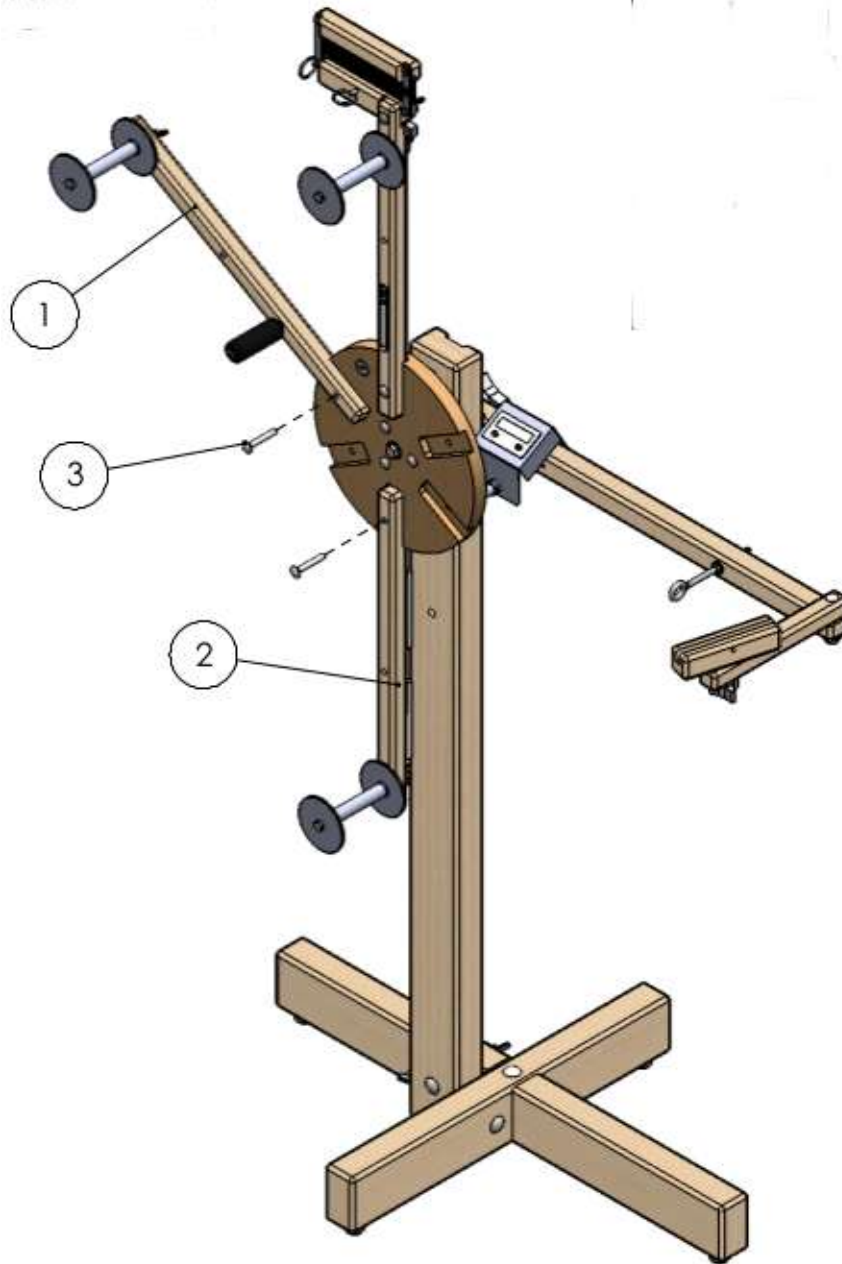

Figure 12 – Spokes with weight and handle
- 3) Then take the spoke with the weight on it and mount it in the six o'clock location on the drum assembly, with the weights facing toward the stand (vertical). (Figure 12)
- 4) Take the spoke with the Handle on it and mount it in the location shown in Figure 12.